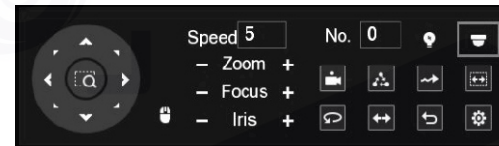

Figure 4-6
**Step 3** Click **+** to see more options. See Figure 4-6.